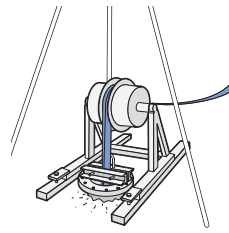

Fig 1.13
- 1.3.2.8 Position the well-head roller above the borehole and firmly secure through the two 22mm holes using bolts or stakes, to prevent movement during installation. Alternatively, clamps or straps may be used to secure the feet of the roller to a suitable fixing (Fig. 1.13).